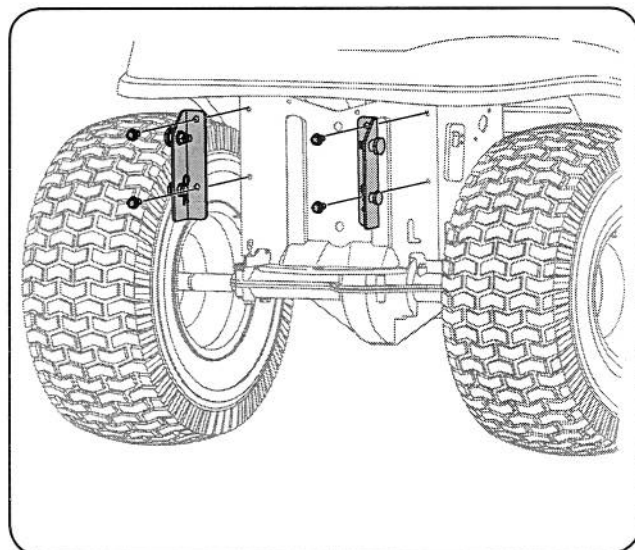

Figure 4-2
3. Mount the 700 series tractor mounting brackets to your tractor using four self-tapping hex screws included with your kit. See Fig. 4-2.